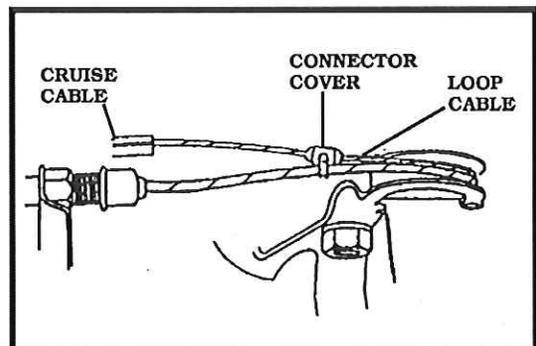

Figure 10
5. To secure the **LOOP CABLE** to the throttle cable, punch a small hole in the **CONNECTOR COVER** and slide the **TIE STRAP (102MM)** through the hole and secure to the throttle cable. *Figure 10*